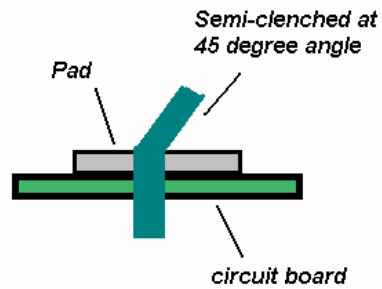

Figure 2: lead termination
5. Lead termination **Figure 2**